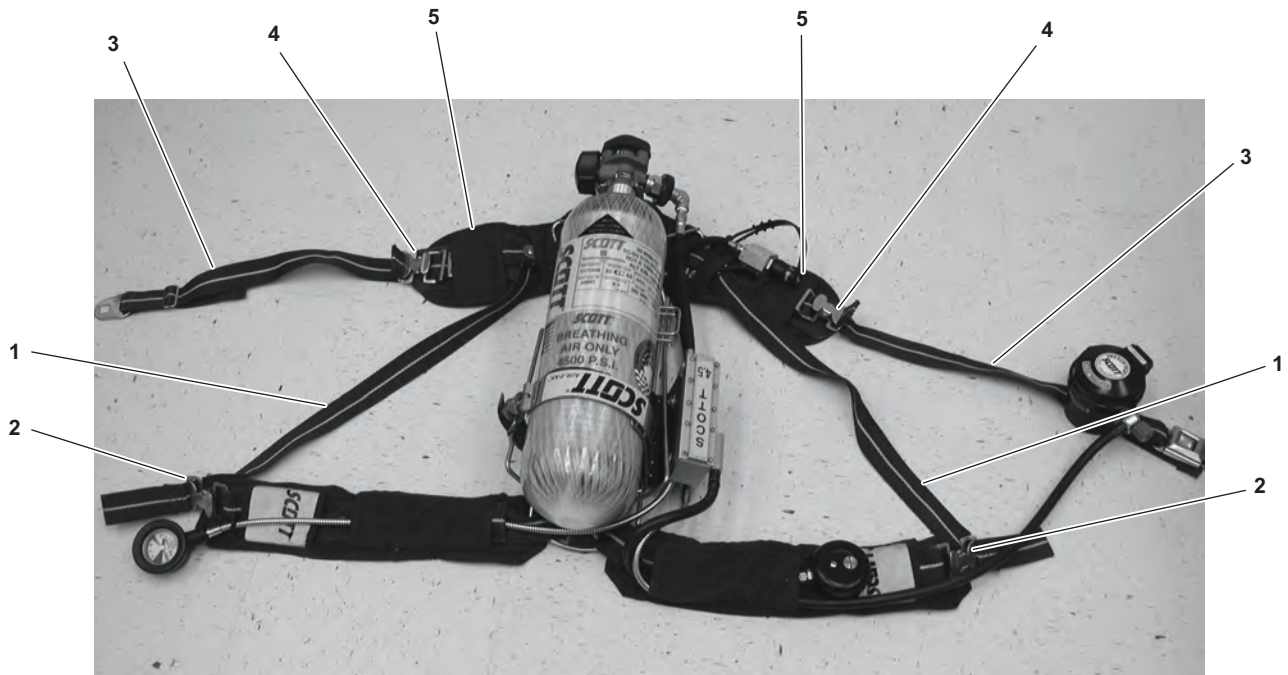

Figure 6-44. Remove Hip Pad Assembly
- (1) Bleed the system IAW paragraph 6.5.1.
- (2) Remove the cylinder assembly IAW paragraph 2.3.2.1 step a.
- (3) Remove the side straps (figure 6-44, item 1) from the shoulder strap spring-action buckles (figure 6-44, item 2).
- (4) Remove the waist adjustment straps (figure 6-44, item 3) from the waist strap spring-action buckles (figure 6-44, item 4).
- (5) Unsnap the hip pad assembly (figure 6-44, item 5) from the backframe.
- (6) Remove the hip pad assemblies (figure 6-44, item 5) from the waist strap spring-action buckles (figure 6-44, item 4) and the side straps (figure 6-44, item 1).
- (1) Inspect the hip pad assembly (figure 6-44, item 5) for any visible sign of damage. Replace as required.
- (2) Position the hip pad assembly (figure 6-44, item 5) with the snap receptacles facing up as shown in figure 6-45.
- (3) Feed the waist strap spring-action buckles (figure 6-44, item 4) and the side straps (figure 6-44, item 1) through the hip pad assembly (figure 6-44, item 5); position the side straps.
- (4) Snap the hip pad assembly (figure 6-44, item 5) to the backframe.
- (5) Feed the side straps (figure 6-44, item 1) through the shoulder strap spring-action buckles (figure 6-44, item 2). The folded seams will face the teeth of the buckles.
- (6) Perform step c.(5) for the waist adjustment straps (figure 6-44, item 3) and the waist strap spring-action buckles (figure 6-44, item 4).
- (7) Replace the cylinder assembly IAW paragraph 2.3.2.1 step b.
- (8) Leak check the area of repair IAW paragraph 6.5.2.